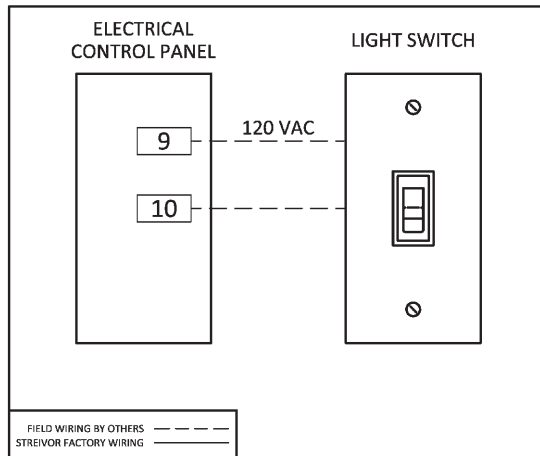

FIGURE 4: Light Switch Wiring
- Connect the load terminal of the remote light switch to terminal block 10 in the ECP (Figure 4).